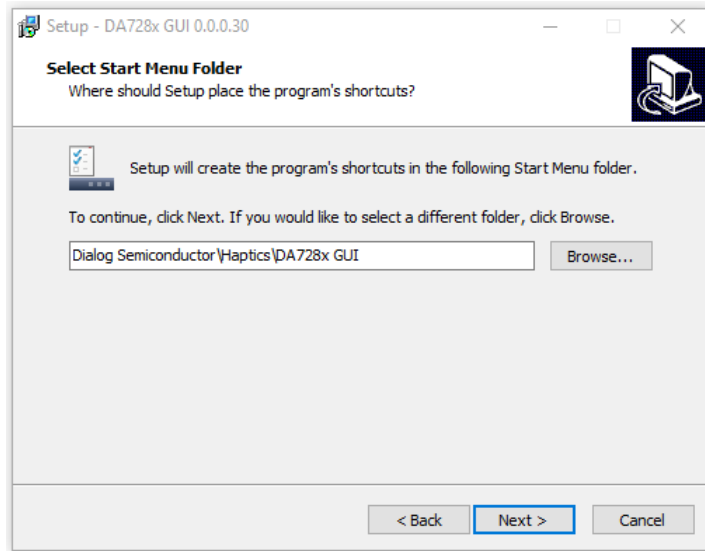

Figure 15. Select start menu folder
- To create a shortcut for the SmartCanvas DA728x GUI in the Start menu, click **Next** (Figure 15).